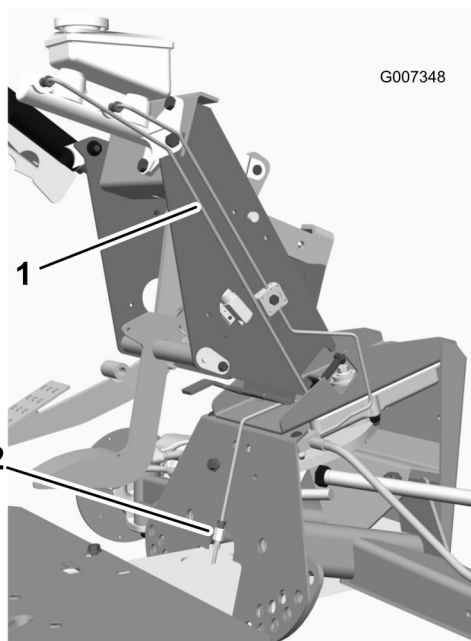

Figure 12
4. Install the rear brake line (104-6793) to the master cylinder in the position shown in Figure 12.
7. Use a union (87-3570) to attach the front end of the center brake line to the rear brake line coming down from the master cylinder (Figure 12).